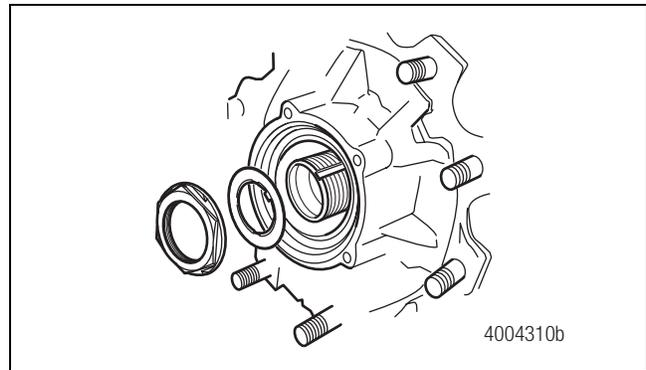

Figure 7
2. Remove the spindle nut from the spindle end. Figure 7.